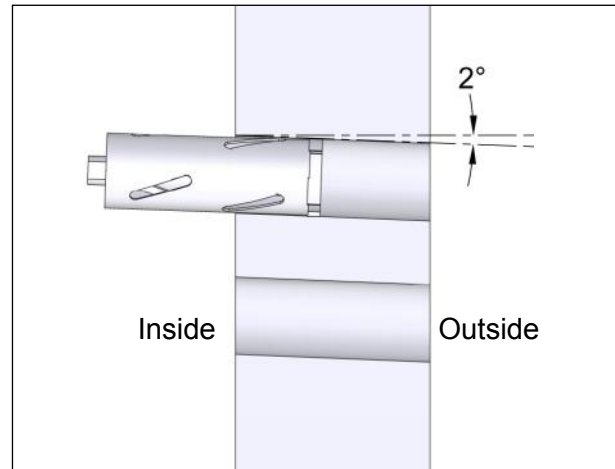

Fig. 11: Drilling core drill holes
- ▶ Drill the two Ø 120 mm core drill holes as described in Fig. 11.